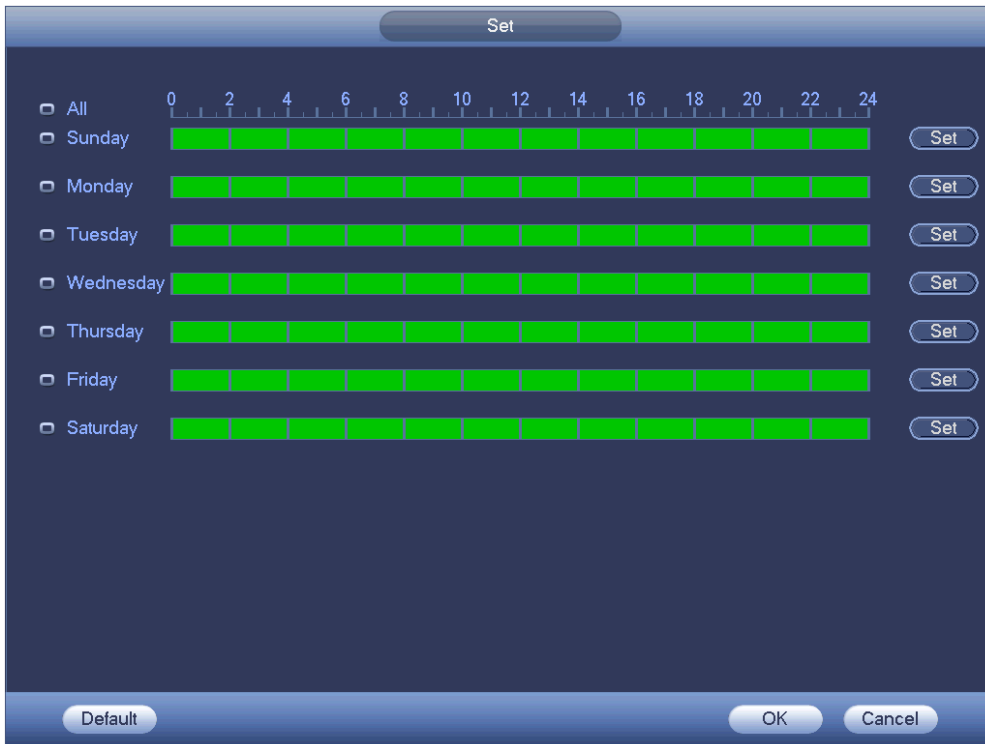

Figure 4-220
Step 4 Click the Set button after the period, you can set valid period to use current account. See Figure 4-220.